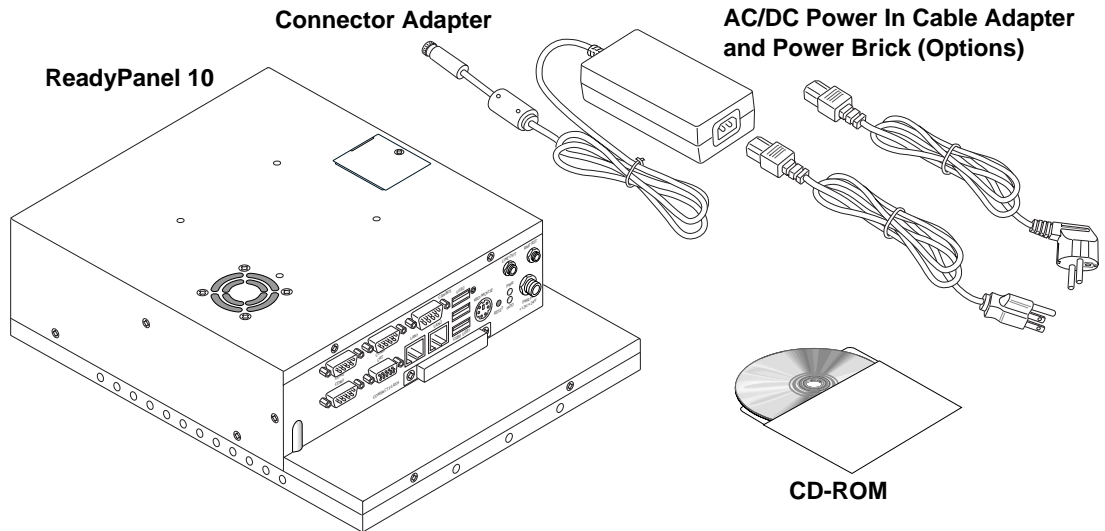

Figure 1-1. ReadyPanel and Accessories
The Contents List identifies the items in the shipping box for the ReadyPanel QuickStart Kit. See Figure 1-1.
1) Open shipping box.	<ul style="list-style-type: none"> • Locate the ReadyPanel Contents List. See Figure 1-1. • Unpack the contents of the shipping box.